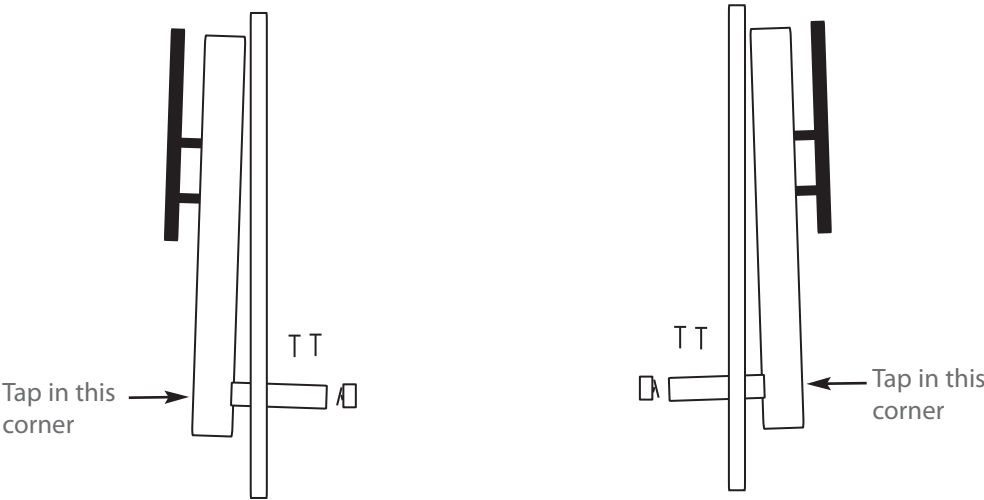
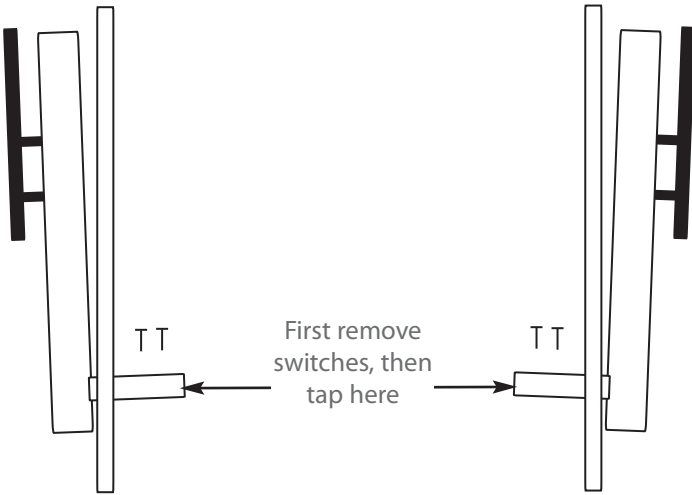

Figure 26B: Door Misaligned Variation 1 - Side Views
Figure 26C: Door Misaligned Variation 2 - Side Views
5. Reference Figures 26B and 26C (page 25) to determine where to tap. If following Figure 26C, remove the primary, secondary, and monitor switches before adjusting the door.
6. Gently tap the oven door in the areas marked in Figures 26B or 26C until the door is parallel to the oven frame.